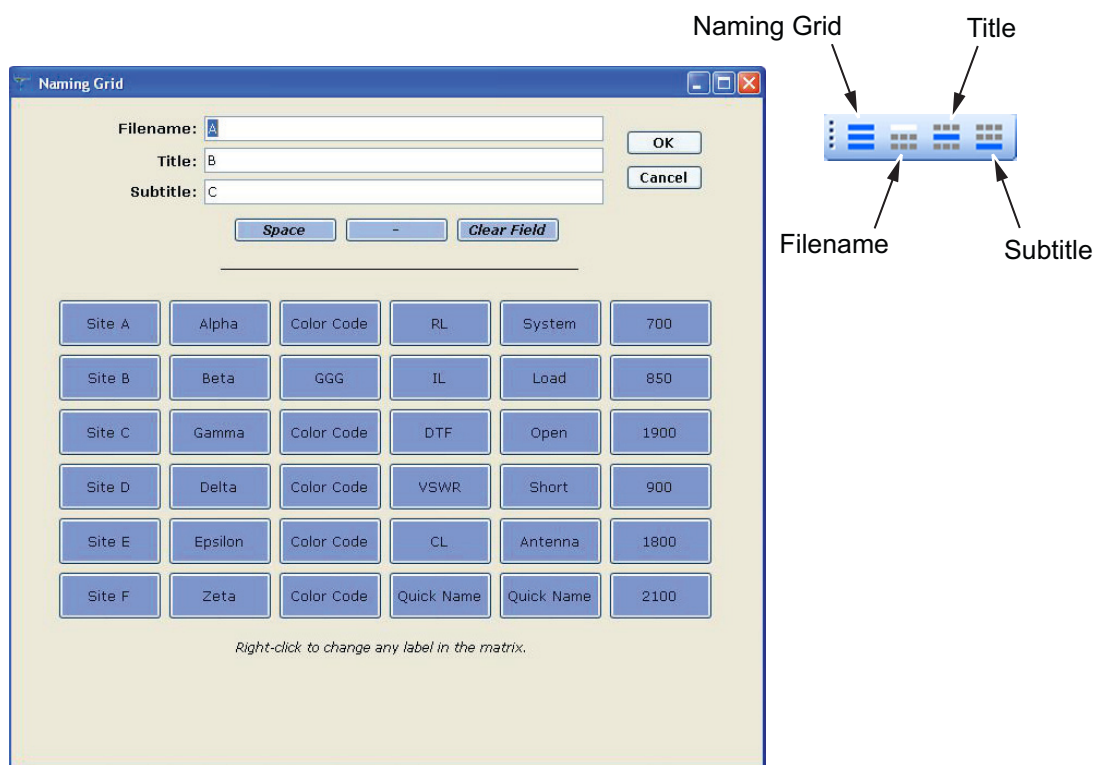

Figure 7-6. Naming Grid and Naming Grid Tool Bar
5. Click on the icons shown in Figure 7-6 to apply the new title, subtitle, filename, or combination (when using **Save As**) to the current trace.